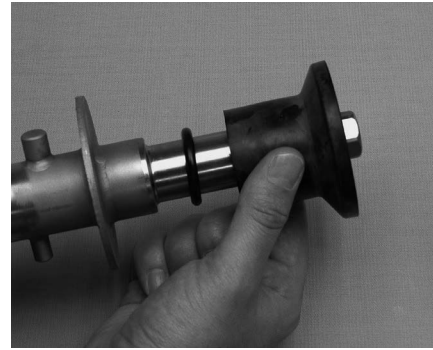

Figure 3-5 Rear Seal Assembly
4. Wipe the spline lubricant off of the hex end of the auger with a paper towel. Remove the rear seal assembly (Fig. 3-5).